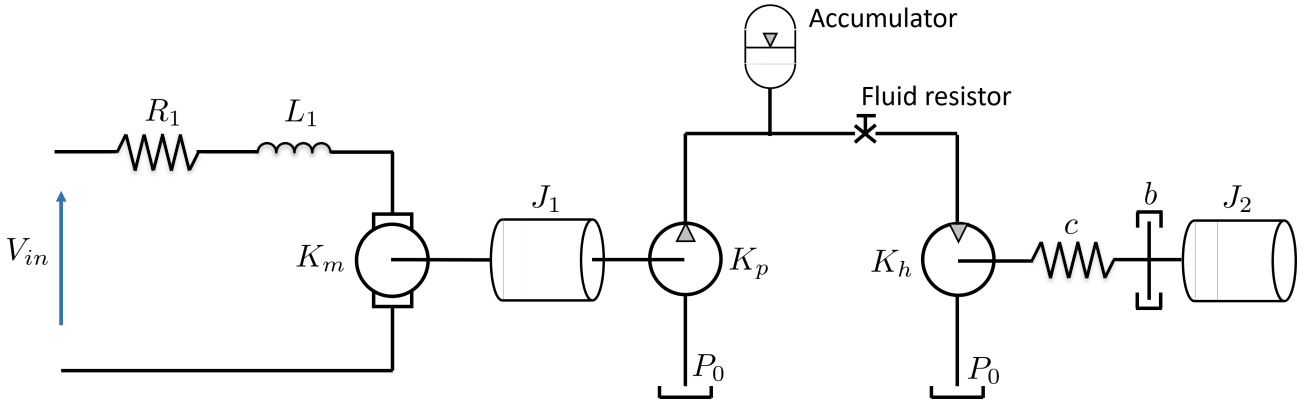
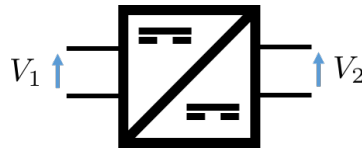

Figure 1: A system containing electrical, mechanical and fluid-power elements.
Figure 2: An ideal DC-DC converter (transformer) element.
A lumped-model representation of a drive system containing electrical, fluid power and mechanical elements is shown in Figure 1. In input voltage of V_{in} is applied to a series resistor (R_1), inductor (L_1) and ideal DC motor (K_m). The mechanical output of the motor is connected to a rotational inertia (J_1) and hydraulic pump (K_p). The pump draws fluid from a reservoir with constant pressure P_0 and feeds into a fluid accumulator. The accumulator is connected to a fluid resistor which feeds a fluid motor (K_h). The output of the fluid motor is connected to a spring (c) which is then connected to a rotational damper (b) and rotational inertia (J_2).
- a) **(10%)** Construct a bond graph for the system shown in Figure 1 and assign causality and causal strokes to the graph. Note that the graph should be causal.
- c) **(10%)** Find a purely electrical circuit that has the same bond graph as the system shown in Figure 1. Submit a drawing of the electrical circuit and the corresponding bond graph. You can use the symbol shown in Figure 2 to represent an ideal DC-DC converter, which acts as a transformer element.